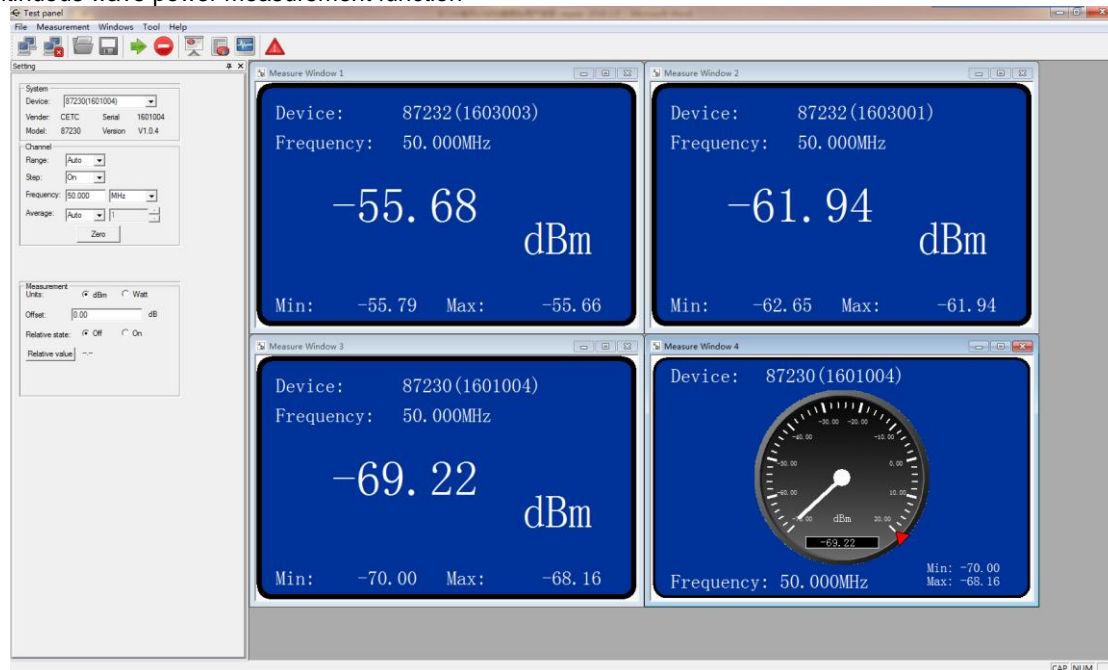

Figure 4.6 Measurement Window Connected with Multiple USB Continuous Wave Power Sensors
**Step 2.** Click the  or  button on the toolbar to open the measurement results of other power sensors with numeric display or analog display, as shown in Figure 4.6;